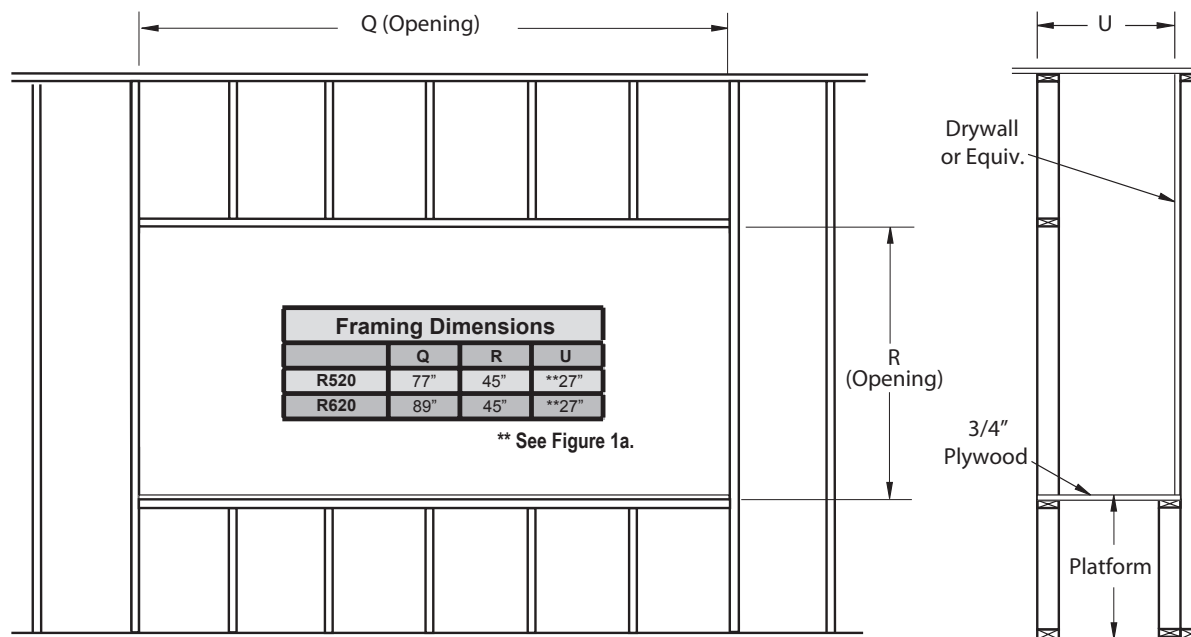

Figure 16. Fireplace installation, (Rough Frame-In dimensions).
Step 1. To ensure your glass viewing area is at the optimum height, follow the Example below, **Figure 16**. Example: If you wish to have the bottom edge of the glass to be 24", the top of the platform will be 13". This dimension takes in account the height of the platform, plywood and adequate clearances.